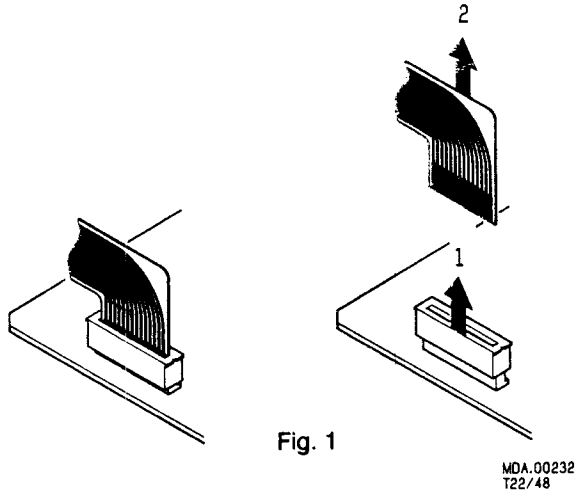

Fig. 1
- Undo the 4 screws on the conductor-side of the servo + pre-amplifier PCB.(Fig. 1)